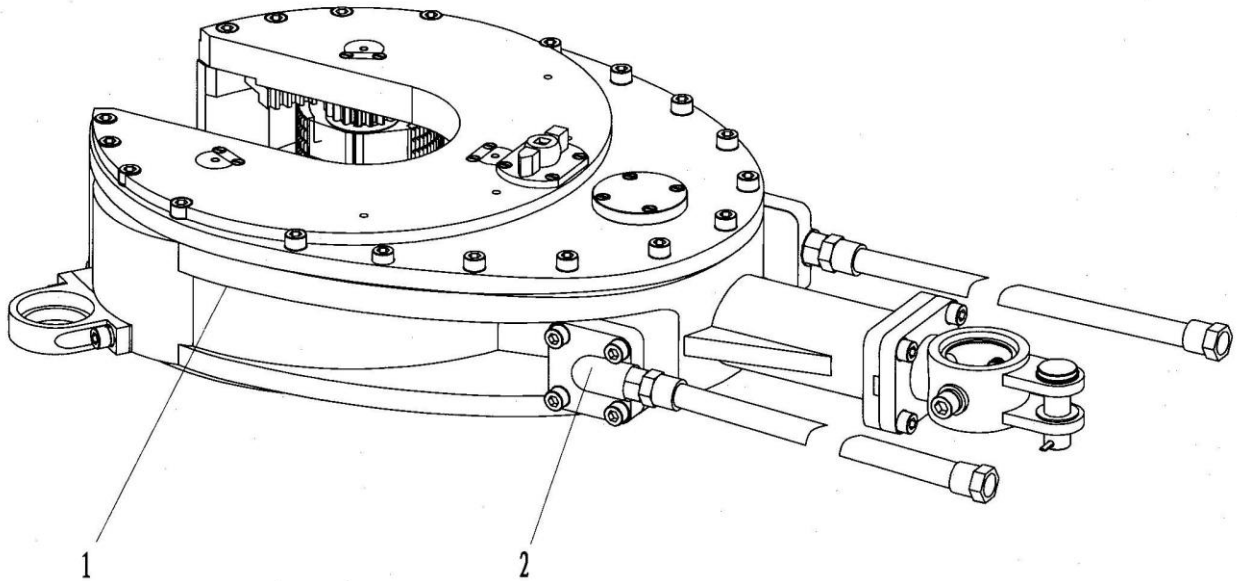

Fig.26
11.9 Backup tong and parts list (Fig.26, Table 13)